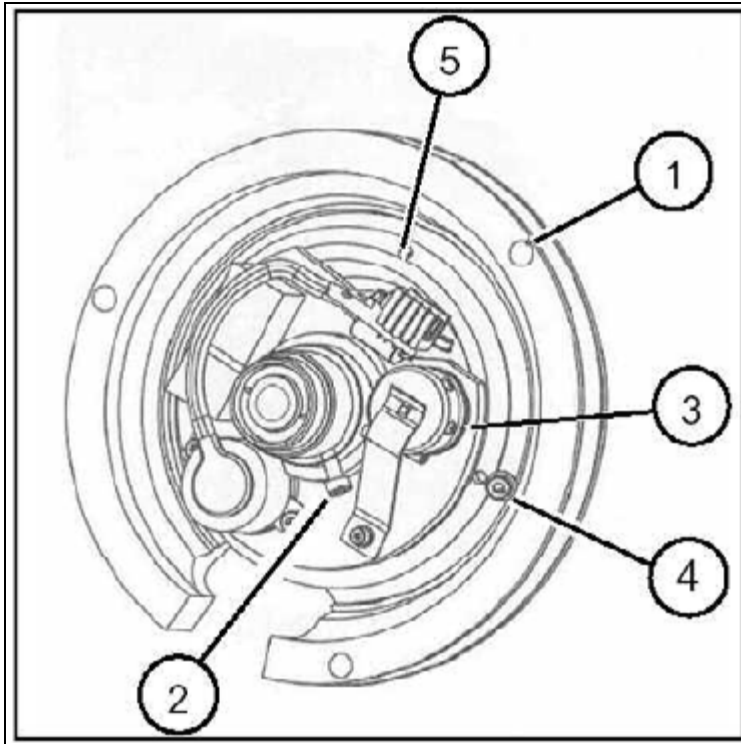

Fig. 13: Replacing the camera and the I. I. optics_2
3. Loosen the clamping screw (4/Fig. 13 / p. 46).
4. Rotate the clamping ring (5/Fig. 13 / p. 46) a half rotation in the counterclockwise direction to loosen the camera. For this purpose, insert an Allen wrench (2.5 mm) into the hole (5/Fig. 13 / p. 46) and push the clamping ring in the counterclockwise direction.
1. Remove the 3 M4 screws (1/Fig. 13 / p. 46).